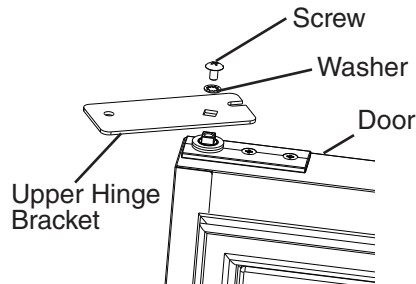

Fig. 7
- 7) While preventing the upper hinge bracket from rotating, remove the upper hinge bracket from the spring cartridge. See Fig. 7. Note which side of the upper hinge bracket is facing up.